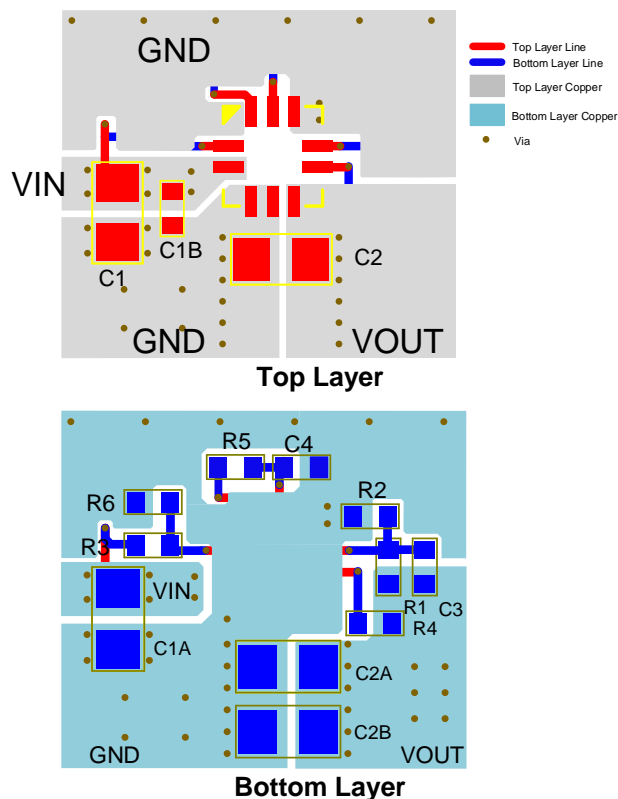

Figure 6: Recommended Layout
Efficient PCB layout is critical for stable operation. For the best results, see Figure 6 and follow the guidelines below:
- 7) The recommended layout is based on Figure 6.